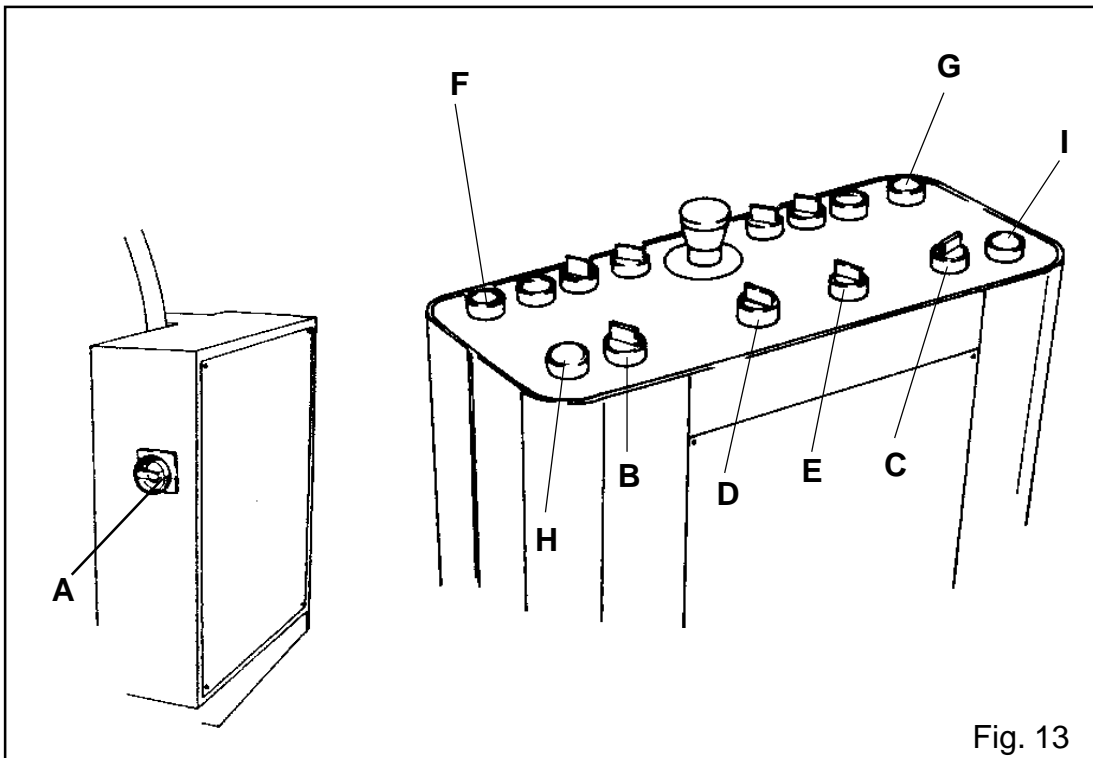

Fig. 13
- Turn main switch A (Fig.13)
- Position the movable cutting head to 45° or to 90° (version GAMMA SWING MX to 45°-90°-45°) by turning selector C (Fig.13)
- Position the fixed cutting head to 45° or 90° (version GAMMA SWING MX to 45°-90°-45°) by turning selector B (Fig.13)
- Selectors D (Fig.13) and E (Fig.13) respectively for fixed and movable head in order to clamp the profile
- Press buttons F and G (Fig.13) for starting of the motors
- Open clamps by turning selector D and E (Fig.13)